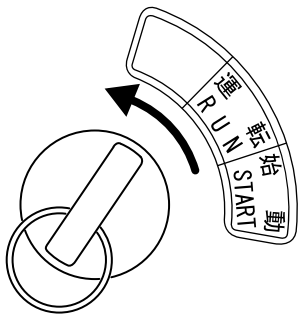

Figure 20. Key (Original Position)
3. Turn the key to the original position (Figure 20).